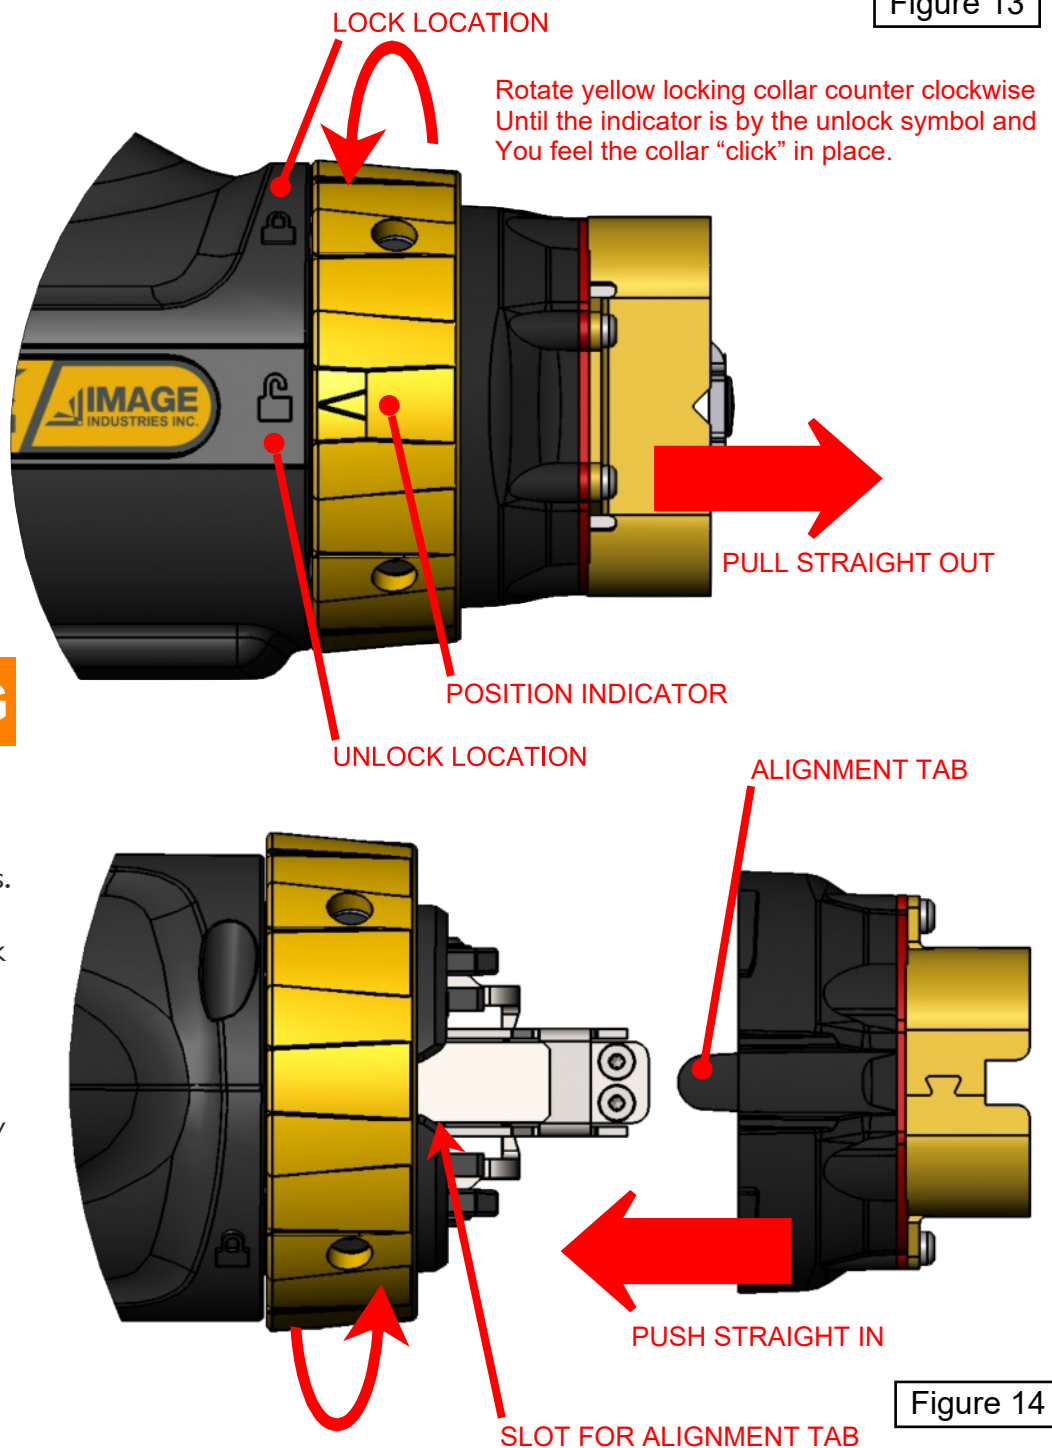

Figure 14
- 3) To reinstall the spark shield reverse the steps. The spark shield can be installed with either of the short sides towards the top of the tool. The tabs on the spark shield line up with slots in the body (Figure 14).